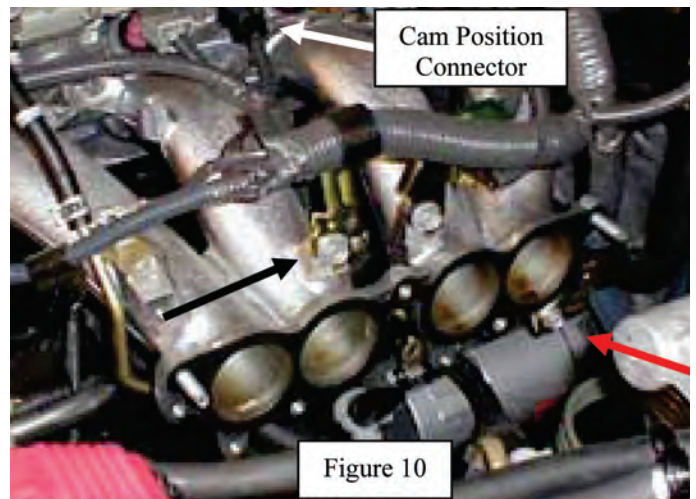

Figure 10
25. Disconnect wire loom clips from the intake manifold brackets and remove the clips from the wire loom. See arrows in Figure 10.
27. Disconnect the camshaft position sensor connector. If equipped See Figure 10.